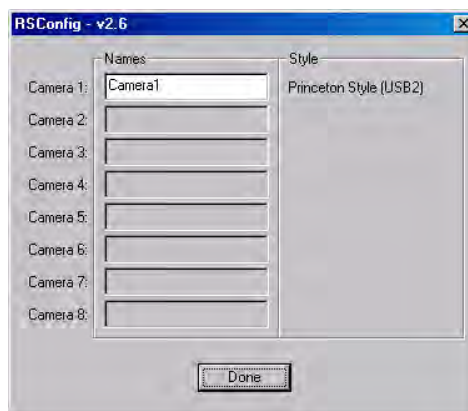

Figure 9. RSConfig dialog box
4. When the RSConfig dialog box (Figure 9) appears, you can change the camera name to one that is more specific or you can keep the default name "Camera1". When you have finished, click on the **Done** button.